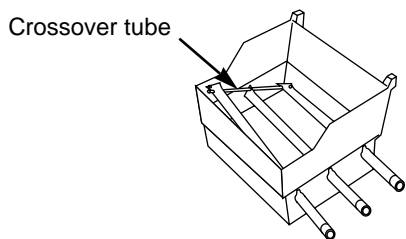

Figure 12
- h) Lift and twist the burner assembly slightly, to separate the crossover tube from the burners. Figure 12. Remove the burners from the cooking box.